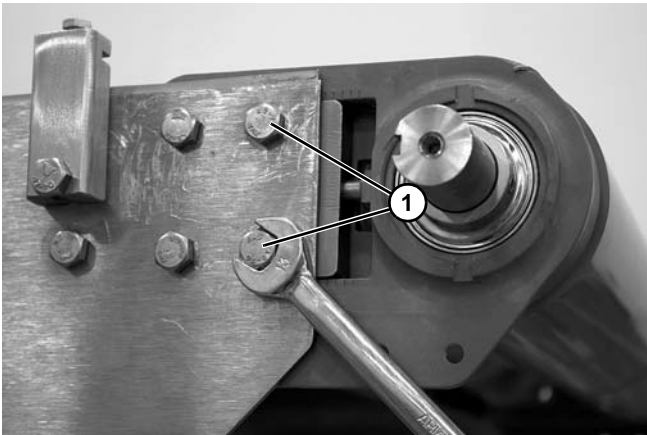

Figure 75
3. Remove two headplate screws (**Figure 75, item 1**). Repeat on opposite side of the conveyor.